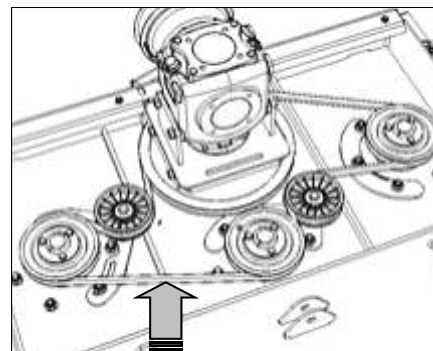

Fig. 40
3. Check the belt tension as shown in Fig. 40. If you are unsure whether the tension is correct or not, tools for checking the tension can be purchased from reputable engineering suppliers. If adjustment is required, proceed as follows.